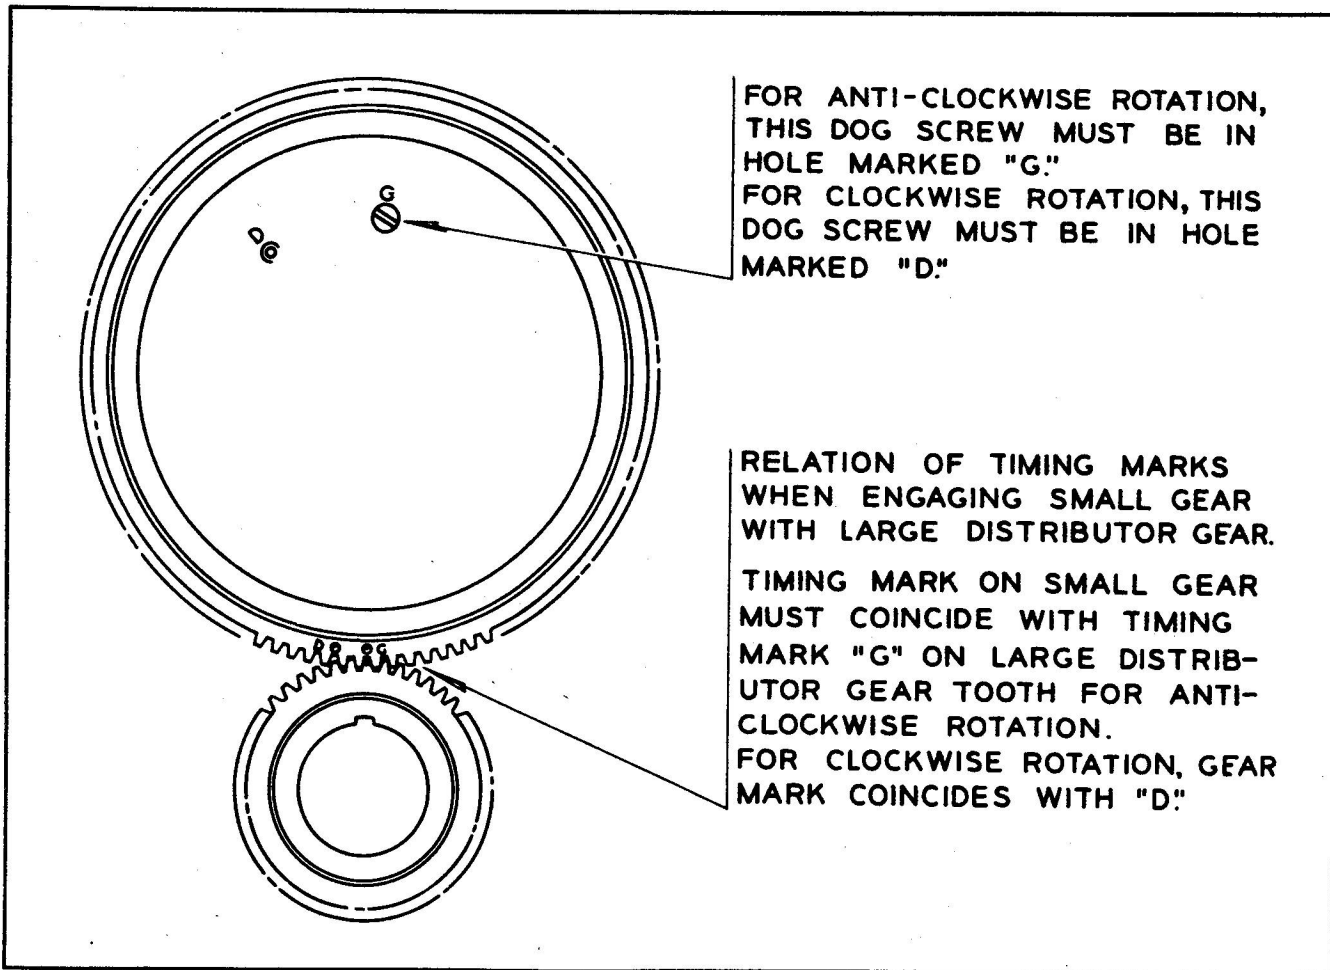

Figure 10—Meshing Distributor Gears Correctly
(1) Mesh the chamfered tooth of the small distributor gear (figure 10) with the tooth on the large distributor gear marked "D" for clockwise rotation or "G" for anticlockwise rotation.
(2) Secure the front end plate to the housing with its two screws and four lock nuts and washers.